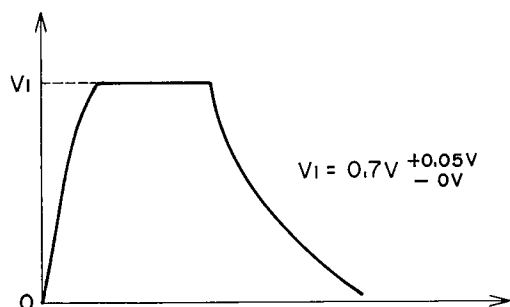

Fig. 37
5. Electro-Magnetic Clutch Constant Adjustment (Refer to Figs. 37, 43)